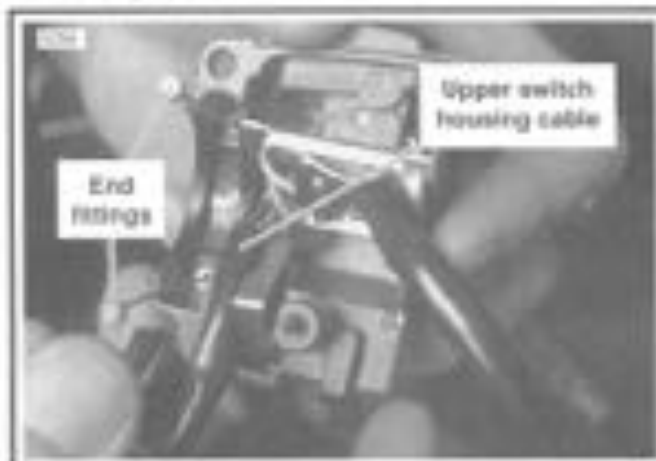

Figure 7-71. Route Cable to Upper Switch Housing
- See Figure 7-71. Route the cable to the upper switch housing as shown.